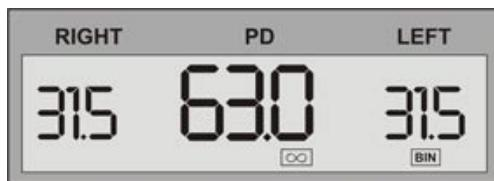

Fig.8 (It is the state of start-up and display window when binocular pupillary distance is measured)
3.3 Start-Up (as shown in Fig.8)
3.4 Measurement of Binocular Pupillary Distance (as shown in Fig.8)